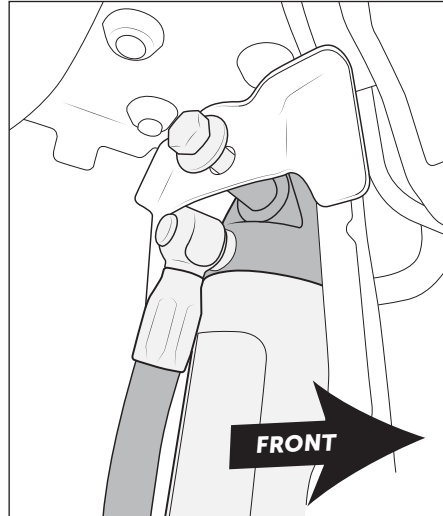

Figure 1
1. Starting with right front shock, install upper mount using factory hardware. Reservoir fitting should point out and slightly angled toward the rear (fig. 1). Reservoir can hang from the hose, be careful not to hit it on anything and damage the finish. An old sock or rag can be helpful to protect it during shock installation.